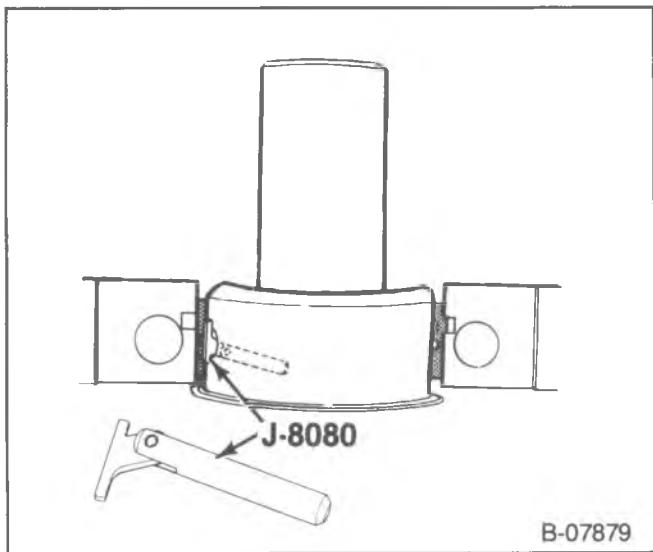

Figure 17—Removing or Installing the Main Bearing Insert
- Insert J-8080 into the crankshaft oil hole (figure 17).